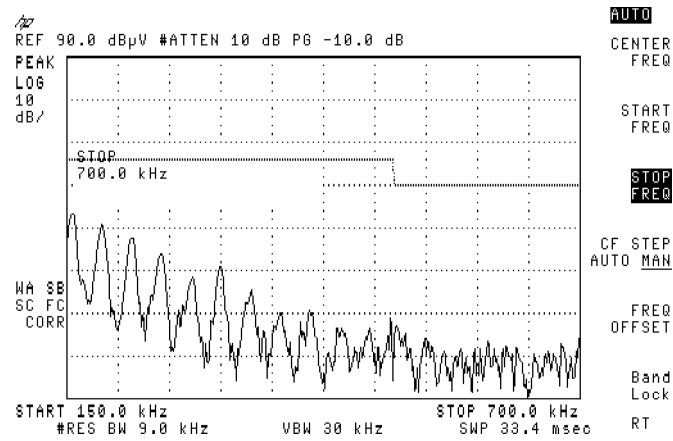

Figure 3-20. Stop Frequency Entered into the Analyzer
6. Press **STOP FREQ**, 700, **ENTER** (**kHz** key in the lower-right corner of the analyzer). See Figure 3-20.